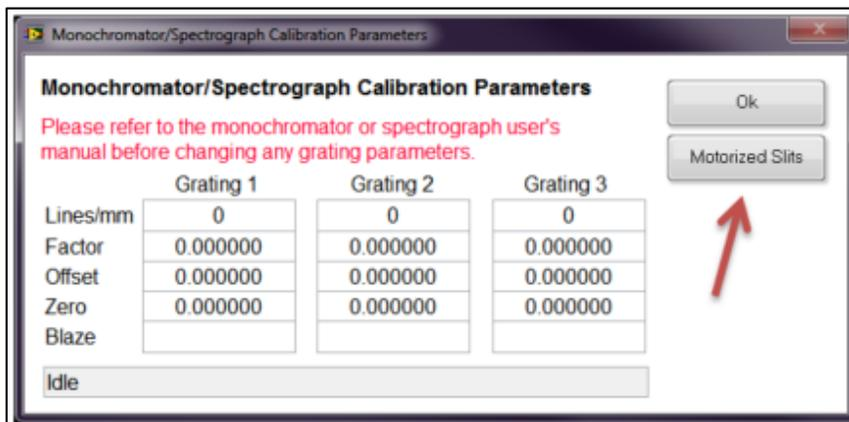
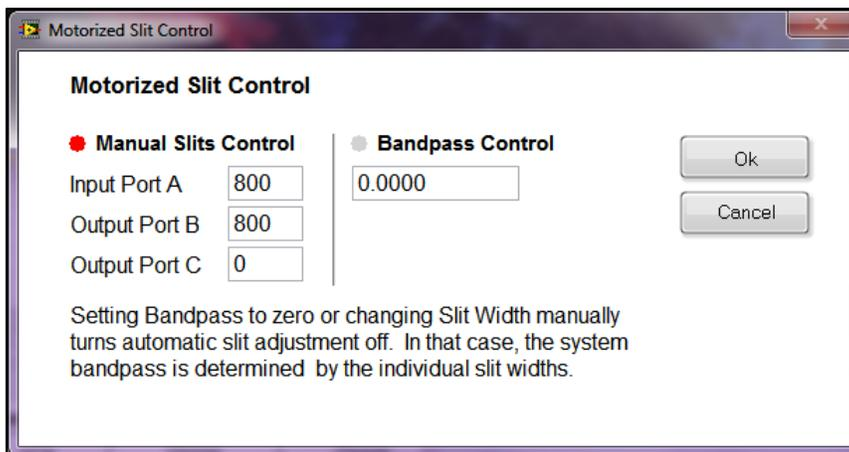

Figure 101: Motorized Slit Control Icon.
Figure 102: Motorized Slit Control Settings.
Motorized slits may be set to a specific width either by manually entering the desired widths in microns or by enabling automatic bandpass control (Fig. 102). To access the slit control feature, go to the pulldown menu Monochromator → Setup Parameters. Click on “Motorized Slits” (Fig. 101). Please note that this feature is not available with the Cornerstone 130(B) monochromator.